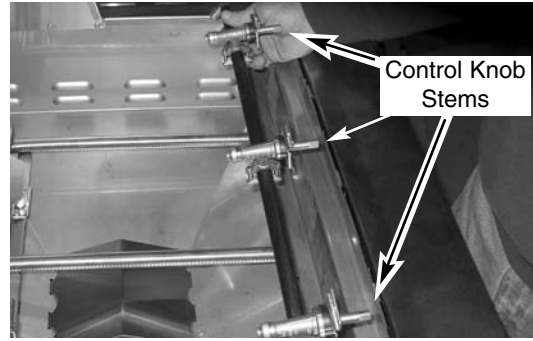

Fig 15
17. Place the new manifold into the grill body with the control knob stems going outward through control panel front (Fig. 15).